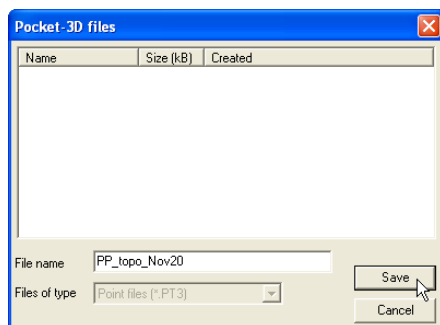

Figure 3-24. Save File to Pocket-3D Controller
3. On the *Pocket-3D files* dialog box, do one of the following and click **Save** (Figure 3-24):